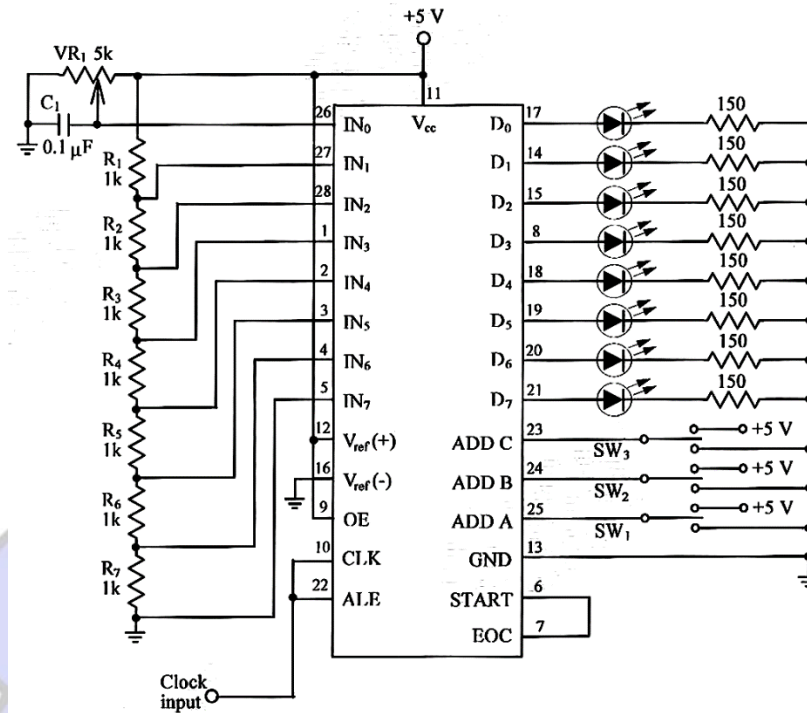

Figure 4-7 Fig 9-7 ADC0809 ADC circuit
A practical ADC circuit with the ADC0809 is shown in Figure 4-7. The EOC pin is directly connected to the START pin. This uses the EOC output signal to start the ADC0809. The clock pulses are applied to ALE and CLK pins to control the ADC operation. The magnitude of the analog voltage to IN0 input is controlled by adjusting the VR1), whereas those of other inputs (IN1 to IN7) are determined by the voltage divider network (R1 to R7). The analog channel inputs are selected by the states of SW1, SW2 and SW3. The LED display indicates the states of digital outputs.
- (2) Comment on the function of switches SW1, SW2 and SW3 in ADC0809 ADC circuit of Figure 4-7.
- (3) Name the unadjusted error of ADC0804.
- (4) Name the unadjusted error of ADC0809.